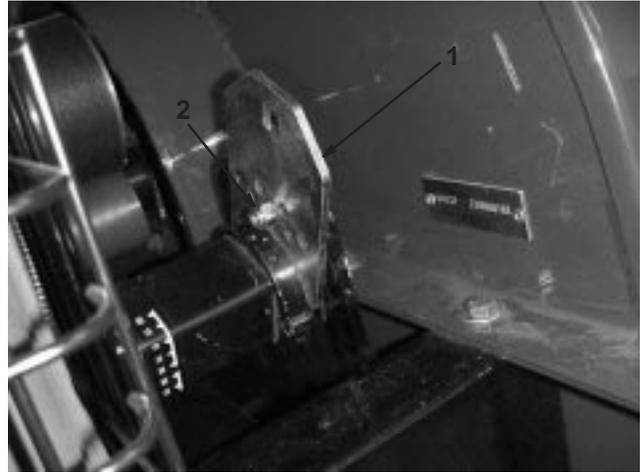

Figure 25
2. Remove capscrew and nut securing tensioner guide to blower frame (Fig. 25). Belt tension will be released when capscrew is removed.